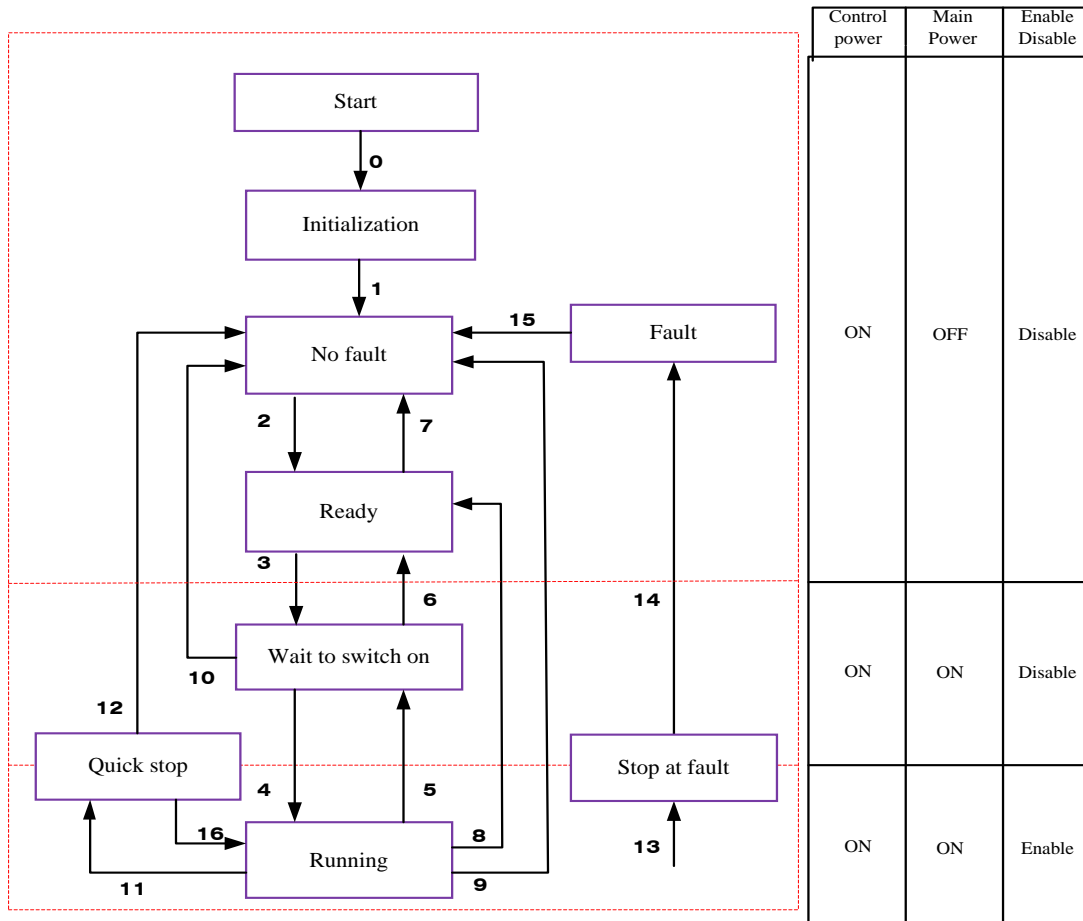

Figure 6.1 ELD2-CAN 402 State Machine switchover diagram
*1) The state machine switch corresponds to figure 6.1